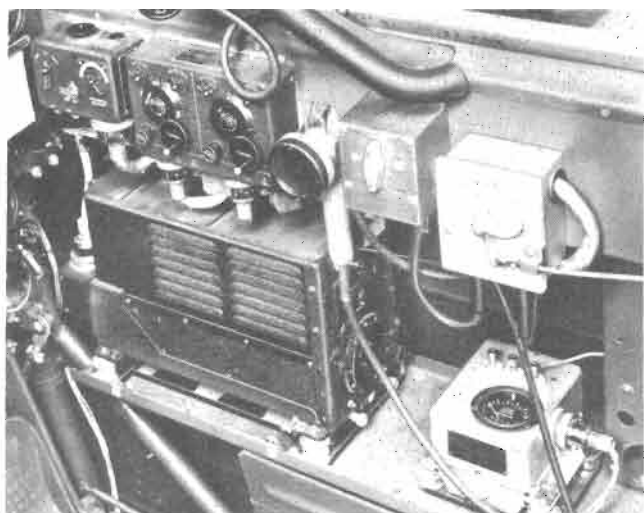

Figure 318 — Front Cockpit Radio Installation — 24-Volt System
(1) DESCRIPTION.—(See figures 318 and 319.)